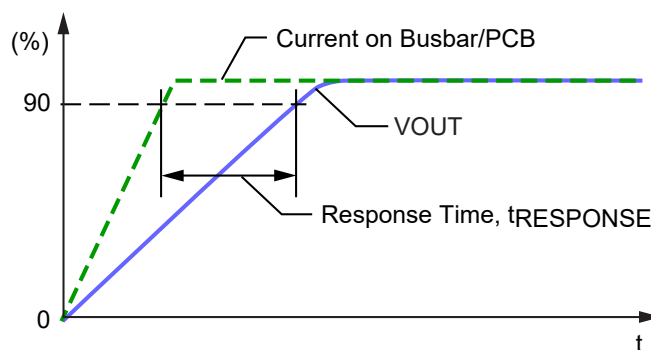

Figure 40: Response Time ( $t_{RESPONSE}$ )
**Response Time ( $t_{RESPONSE}$ ).** The time interval between a) when the sensed current reaches 90% of its final value, and b) when the sensor output reaches 90% of its full-scale value, as shown in Figure 40.